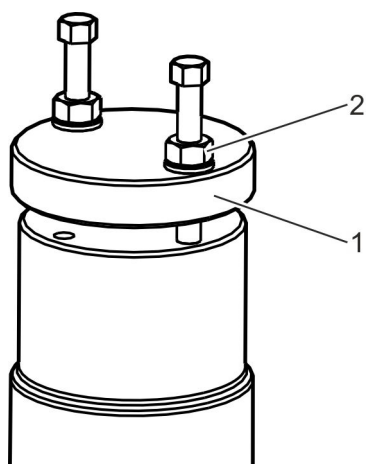

Fig. 31: Fastening the blocking device
- 8.** ➤ Press the blocking device (Fig. 31/1) using the two previously fitted nuts (Fig. 31/2) evenly down on to the guide that protrudes from the body.
- 12.** ➤ Unscrew the nuts (Fig. 31/2).